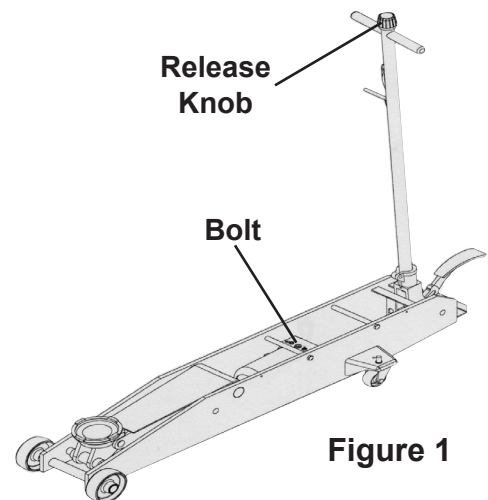

Figure 1
2. Loosen the bolt (Item 46; also see Figure 1) one-half turn.